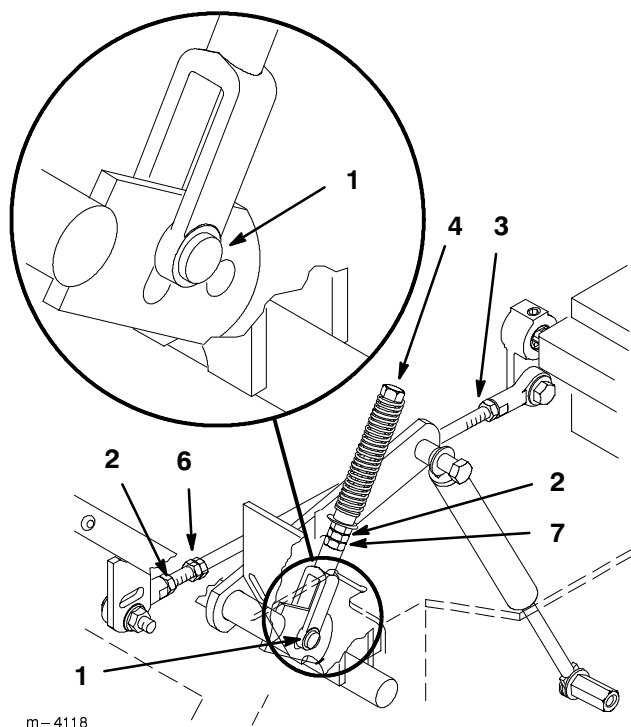

Figure 66
2. Begin with either the left or right motion control lever. Move lever to the neutral (but not locked) position and pull lever back until the clevis pin (on arm below pivot shaft) contacts the end of the slot (just beginning to put pressure on spring) (Fig. 66).
4. If adjustment is needed, loosen the nut against the yoke (Fig. 66).
5. Apply slight rearward pressure on the motion control lever, turn the head of the adjustment bolt in the appropriate direction until lever is centered in neutral lock position (keeping rearward pressure on the lever will keep the pin at the end of the slot and allow the adjustment bolt to move the lever to the appropriate position (Fig. 66).
4. Loosen locknut at ball joint on pump control rod (Fig. 66).
6. Adjust pump rod length by rotating double nuts on rod, in the appropriate direction, until wheel is still or slightly creeps in reverse (Fig. 66).